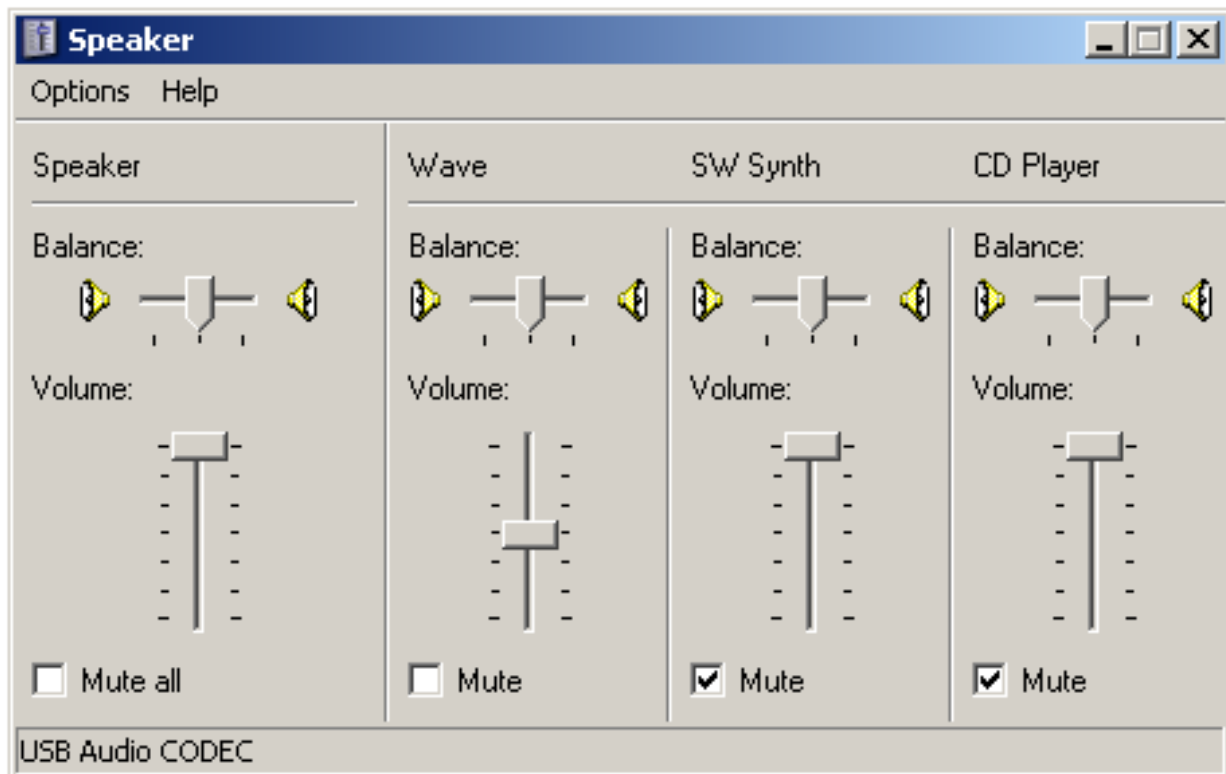

Figure 3 –Volume Control Panel
- The volume control panel will now open. Set the "Speaker" control (far left control) to 100% max volume, and set the "Wave" control to 50%. Note that the Speaker and Wave controls should NOT be muted. All other controls can be. Your volume control panel should now look similar to the one shown below in Figure 3: